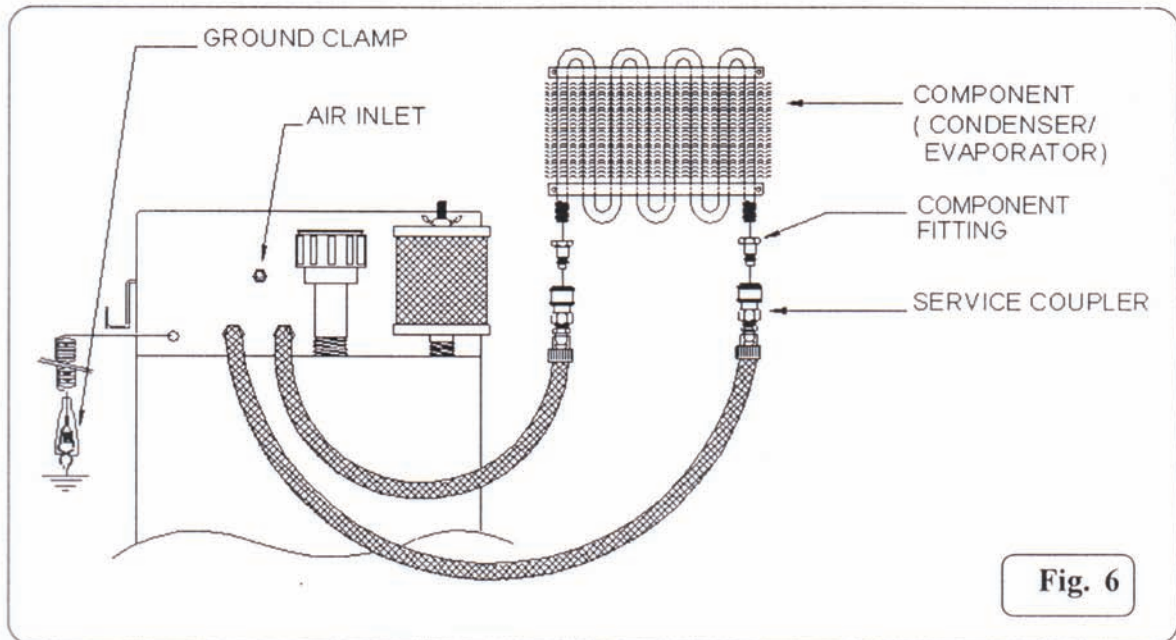

Fig. 6
6. Select and install proper component fittings on the inlet and outlet ports of the component to be flushed (Fig. 6).
7. Connect the OUTPUT service coupler to the OUTLET port fitting of the component (Fig. 6).